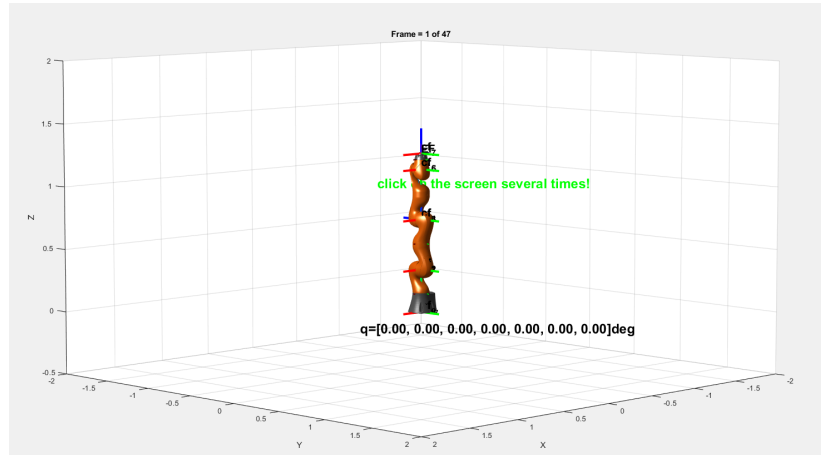

Figure 8: robot frame 1
Referring to the DH table for the KUKA robot with 7 degrees of freedom, we can determine the essential coordinate frames (CF) vital for efficient robot control. Figures 8 and 9 showcase two distinct robot positions, each accompanied by their validated coordinate frames derived from the DH table. The accuracy of these coordinate frames is affirmed through visual validation, employing images captured in the lab PM.